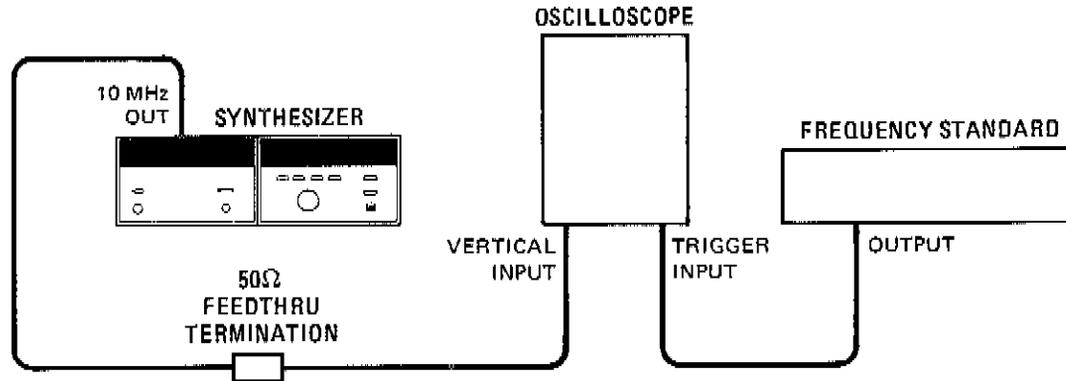

Figure 4-10. Internal Time Base Aging Rate Test Setup
2. Connect the equipment as shown in Figure 4-10.